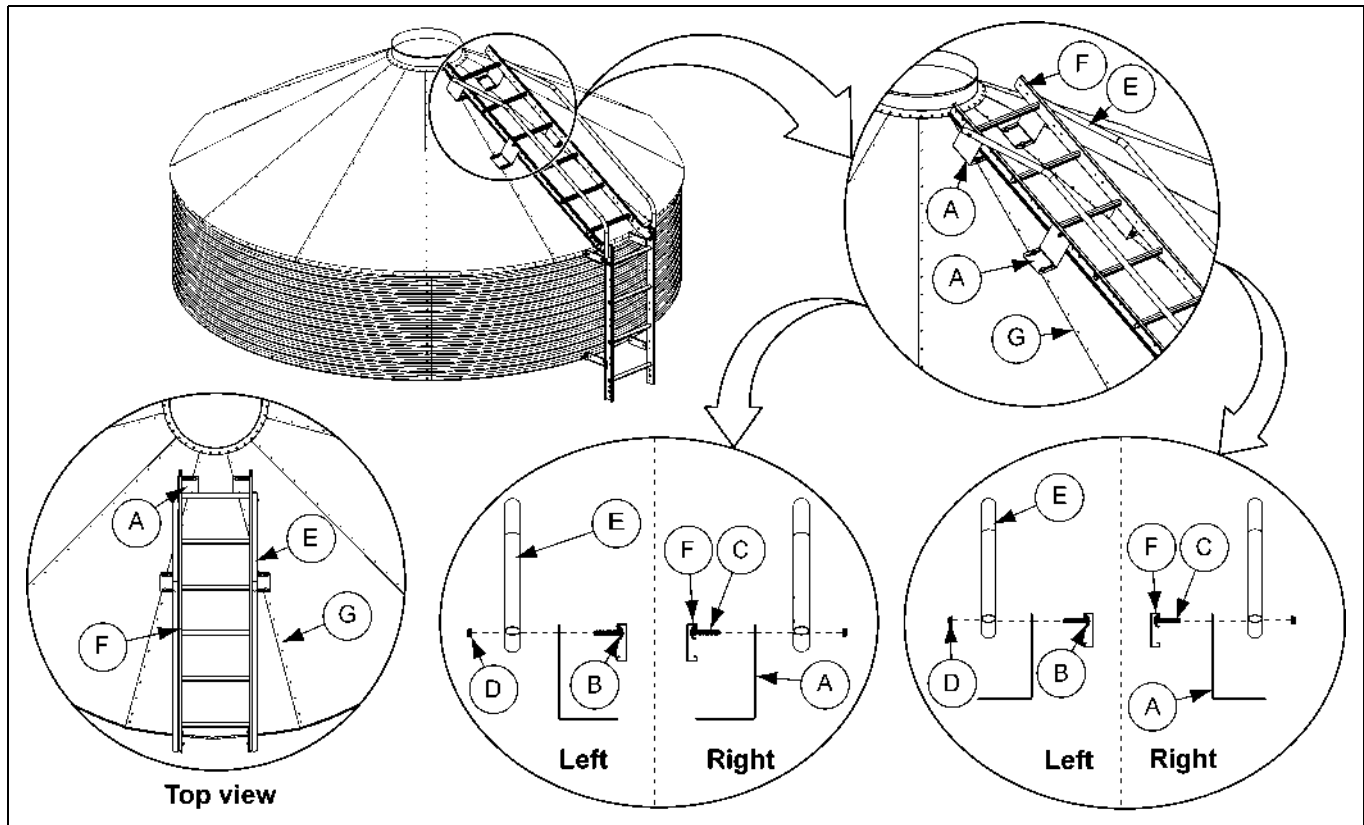

Figure 8C 12' and 18' Tank
1. The roof ladder (F) requires support brackets (A) at the top and middle of the ladder.
2. **12' and 18'**: The support brackets (A) on top of the ladder are bend in towards the center of the roof ladder (F) and the support brackets (A) on the middle of the ladder are bend out away from the center of the roof ladder (F). (See Figure 8C.)